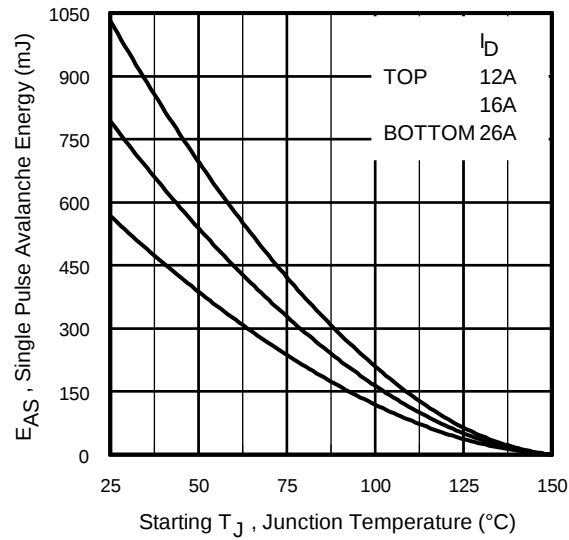

Fig 14a. Maximum Avalanche Energy vs. Drain Current
- ② Starting $T_J = 25^\circ\text{C}$, $L = 1.7mH$, $R_G = 25\Omega$, $I_{AS} = 26A$, (See Figure 14a)
- ③ $I_{SD} \leq 26A$, $di/dt \leq 71.9A/\mu s$, $V_{DD} \leq V_{(BR)DSS}$, $T_J \leq 150^\circ\text{C}$.
④ Pulse width $\leq 300\mu s$; duty cycle $\leq 2\%$.
⑤ $C_{oss \text{ eff.}}$ is a fixed capacitance that gives the same charging time as C_{oss} while V_{DS} is rising from 0 to 80% V_{DSS} .